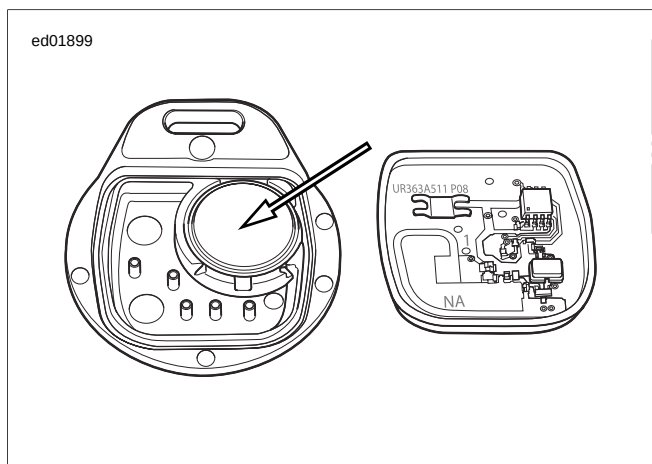

Figure 5-30. Key Fob Battery: TSSM
- See Figure 5-30. Verify that antenna is in OE location and that seat has not been replaced with a metal base seat.